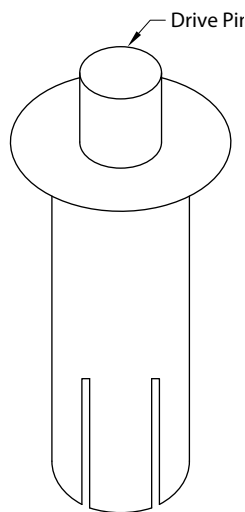

Figure 11
4.5.3 Attach the new lining to the backing plate with new drive pin rivets (See Figure 11). Work from the center of the friction segment out to the ends. The rivets are installed by driving the pin flush with the head.